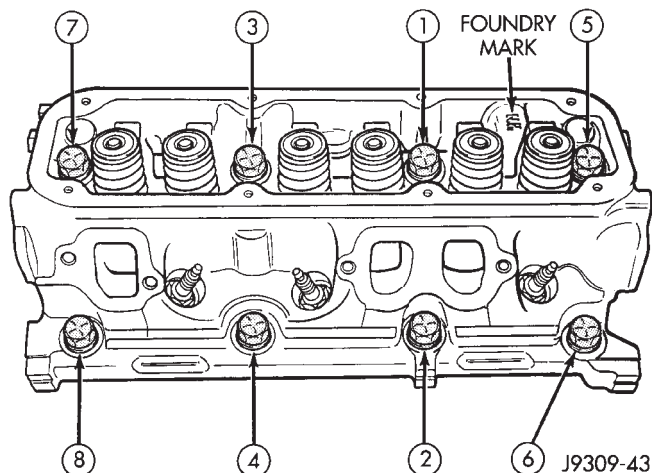

Fig. 26 Cylinder Head Bolt -Tightening Sequence
- (1) Position the new cylinder head gaskets onto the cylinder block.
- (2) Position the cylinder heads onto head gaskets and cylinder block.
- (3) Starting at top center, tighten all cylinder head bolts, in sequence, to 68 N·m (50 ft. lbs.) torque (Fig. 26). Repeat procedure, tighten all cylinder head bolts to 143 N·m (105 ft. lbs.) torque. Repeat procedure to confirm that all bolts are at 143 N·m (105 ft. lbs.) torque.